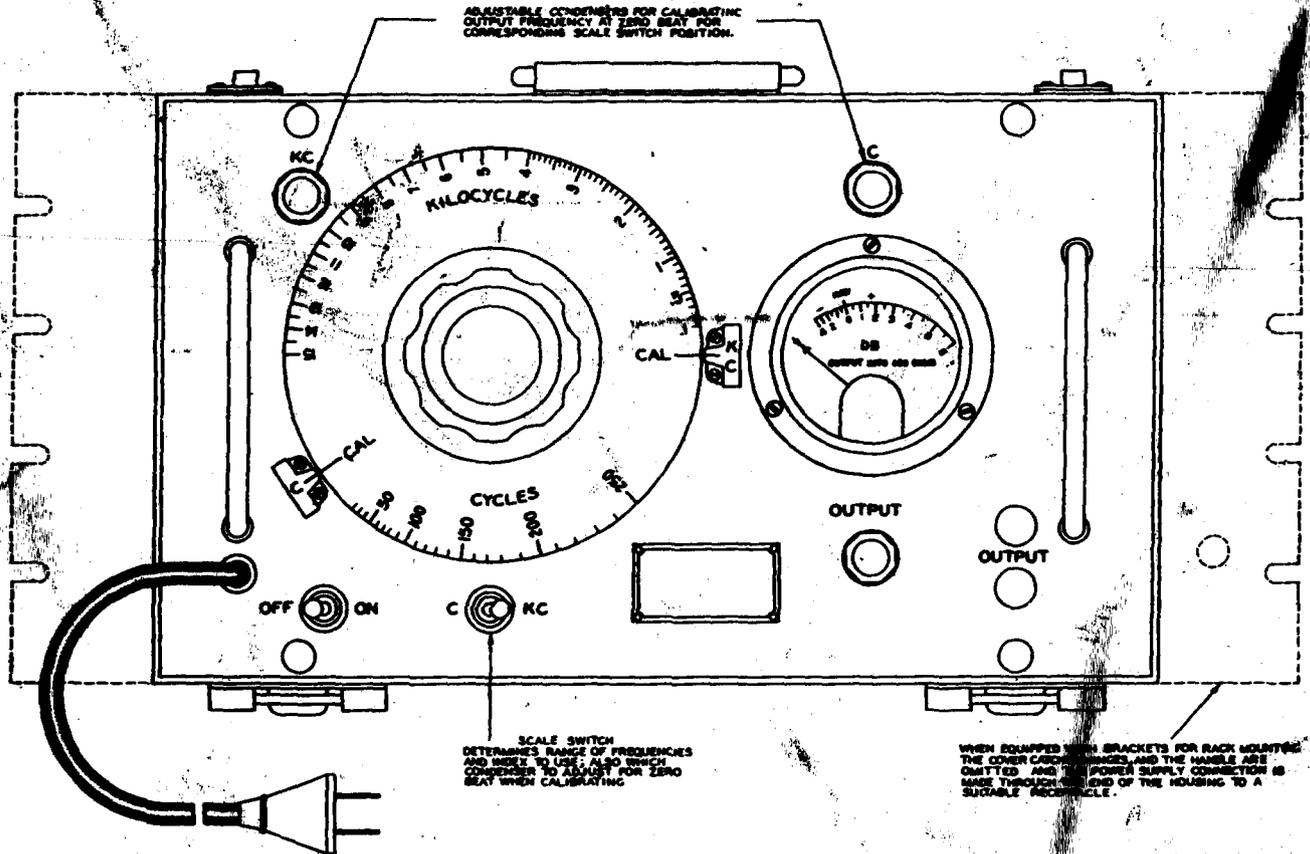

Fig. 1 - Face View of 19C Oscillator
2.01 This apparatus is of a panel-chassis type construction and is contained in a perforated steel housing with an aluminum finish. The approximate dimensions of the 19C oscillator are as follows: over-all length 15", height 9-1/2", depth 9-1/4". It weighs about 27 lbs. The 19C oscillator when equipped with the D157288 set of parts can be mounted on 19" racks or, when equipped with D157289 set of parts can be mounted on 23" racks. A face view of the 19C oscillator and a set of brackets 8-3/4" high for 19" rack mounting is shown in Fig. 1. A minor modification affecting principally the power supply cord is required to adapt the 19C oscillator for rack mounting. External circuit arrangements are given on Drawing SD-64913-01 (not attached).
3.03 From the standpoint of output frequency the 19C is designed to supply any frequency over the full range by means of a single adjustment, but it is desirable for best accuracy in the range below 250 cycles to use the cycles range with the switch operated to the C position. With the calibration adjustment correct, the output frequency is in substantial agreement with the frequency scale divisions throughout the range. Each frequency scale has been determined by actual calibrations at several frequencies and is marked as shown in Fig. 1. Precise settings at scale divisions of the tuning dial with respect to the index are assumed in the performance data given in Table 1. These data assume a room temperature between 60° F and 100° F, and assume that good vacuum tubes are used, that the oscillator is used after a warming-up period of at least 10 minutes, and that the zero beat frequency calibration has just been made.